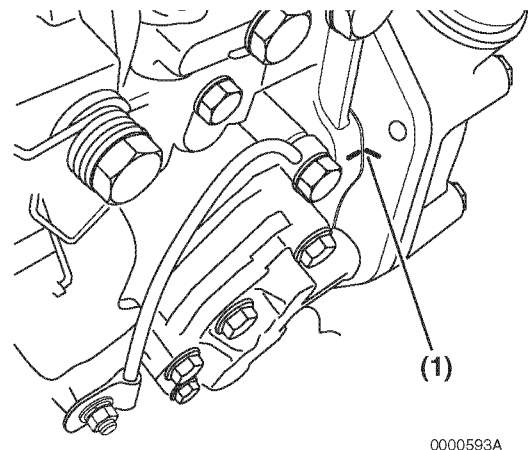

Figure 7-16
22. Locate the mark stamped into the upper outside mounting boss of the fuel injection pump. Highlight this mark and make a corresponding mark on the gear case or front plate (Figure 7-16, (1)).